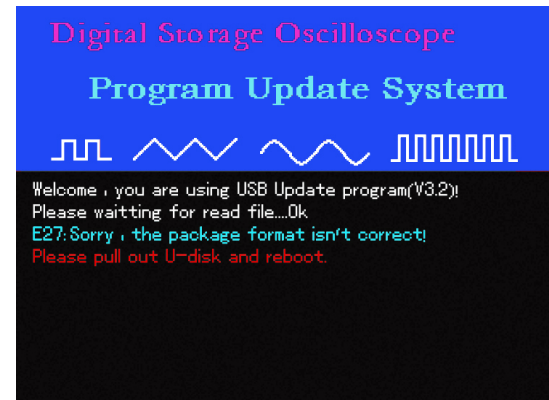

Figure 5-11
6. During upgrade, if the system reads that the format of the program upgrade pack document is different from that of the Oscilloscope, the prompt in Figure 5-11 will appear : “E27:Sorry, the package format isn’t correct! Please pull out U-disk and reboot.”